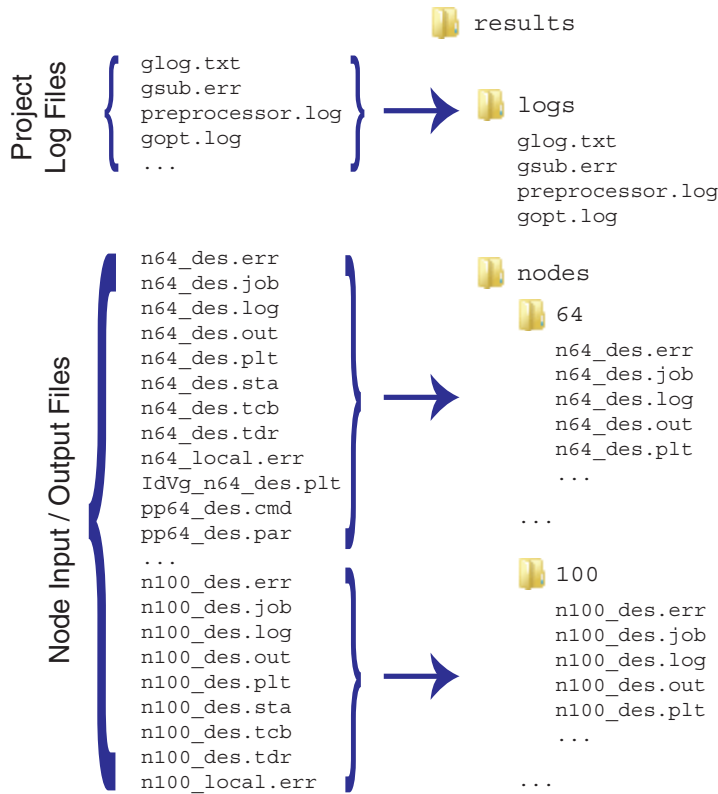

Figure 85 Example of how files are stored comparing (*left*) the traditional project organization with (*right*) the hierarchical project organization
- Node files are stored in individual `results/nodes/<node#>` folders, without any further structure (see Figure 85 on page 244). The naming of node files remains the same as in the traditional project organization.